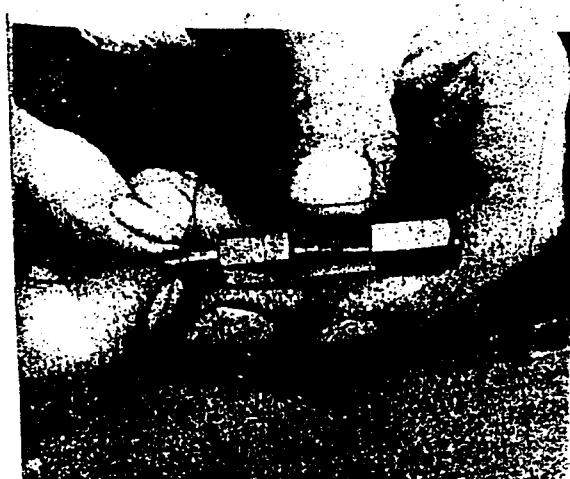

FIG. 131
6. To clean the pintle end of the valve itself insert the valves into the appropriate end of the nozzle pintle cleaner (ET.072) and rotate until all the carbon is removed, as shown in Fig. 131. Should this not prove completely satisfactory the brass wire brush (ET.068) may also be used and any hard pieces of carbon still not dislodged may be removed with a piece of wood or brass strip.